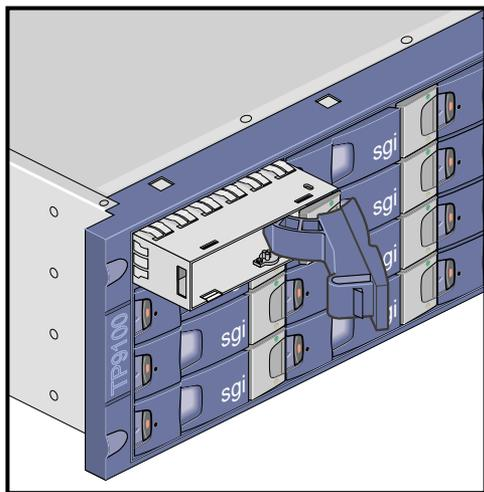

Figure 14-18 Inserting Disk Drive Module in D-brick2
6. Orient the new drive carrier module so that the hinge of the handle is on the right. Then slide the drive carrier module into the chassis until it is stopped by the camming lever on the right of the module (see Figure 14-18).